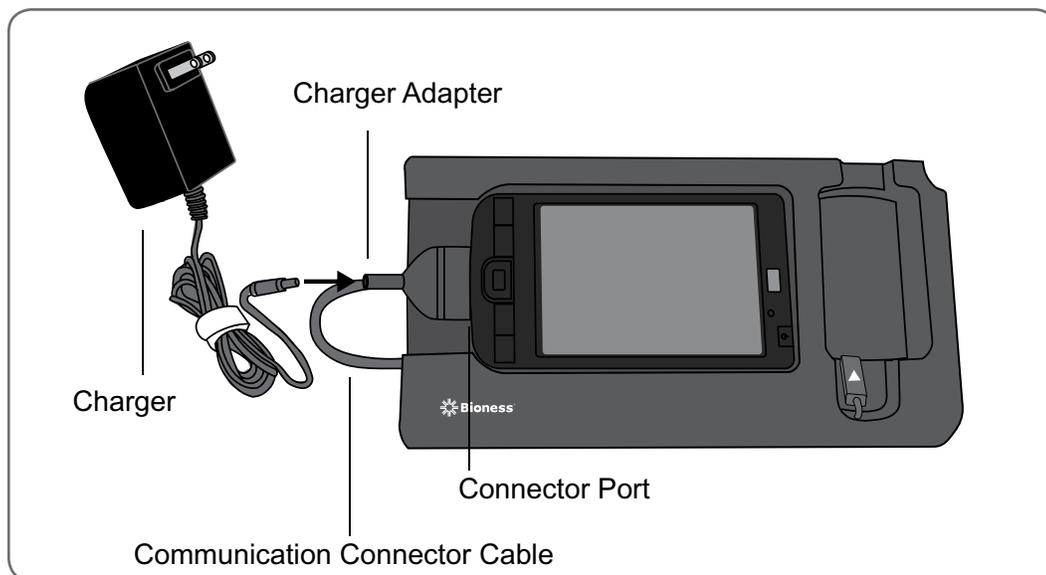

Figure 8-1: Clinician's Programmer set-up and charging configuration.
1. Orient the Clinician's Programmer in the Configuration Cradle with the touchscreen facing up and the connector port facing left. See Figure 8-1.
1. Insert the connector on the Clinician's Programmer Charger into the charger adapter on the communication connector cable. See Figure 8-1.